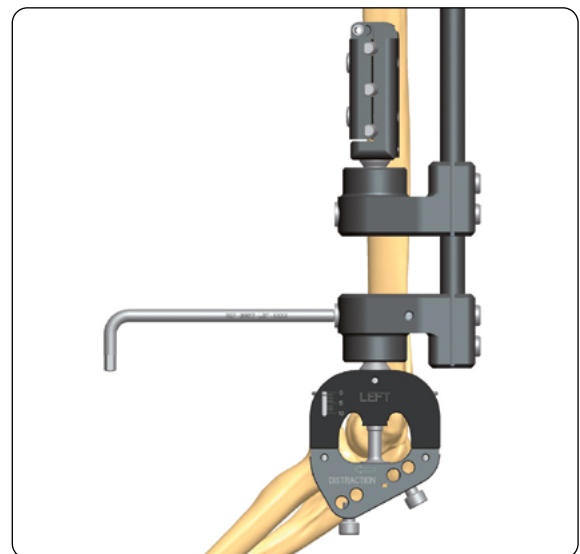

Fig. 9
8) Tighten the ball-joints with the Allen Wrench (10017) (**Fig. 9**).